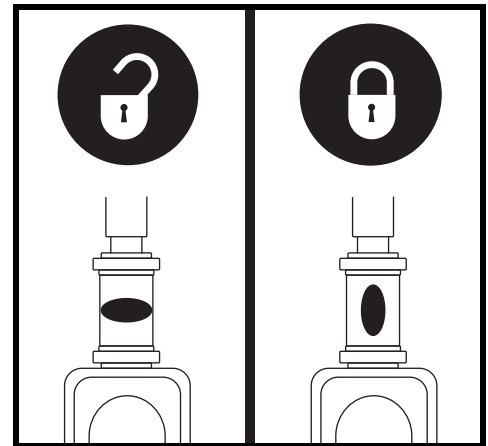

Figure 25. Tiller Lock Knob
2. Lock the tiller in the straight ahead position by pushing the tiller lock knob in and turning it clockwise 90°. **See figure 25.** The front wheel must face forward in order to lock the tiller.
1. Remove the key from the key switch and then lock the tiller in the straight ahead position by pushing the tiller lock knob in and turning it clockwise 90°. **See figure 25.** The front wheel must face forward in order to lock the tiller.
6. Unlock the tiller by turning the tiller lock knob 90° counterclockwise. **See figure 25.**